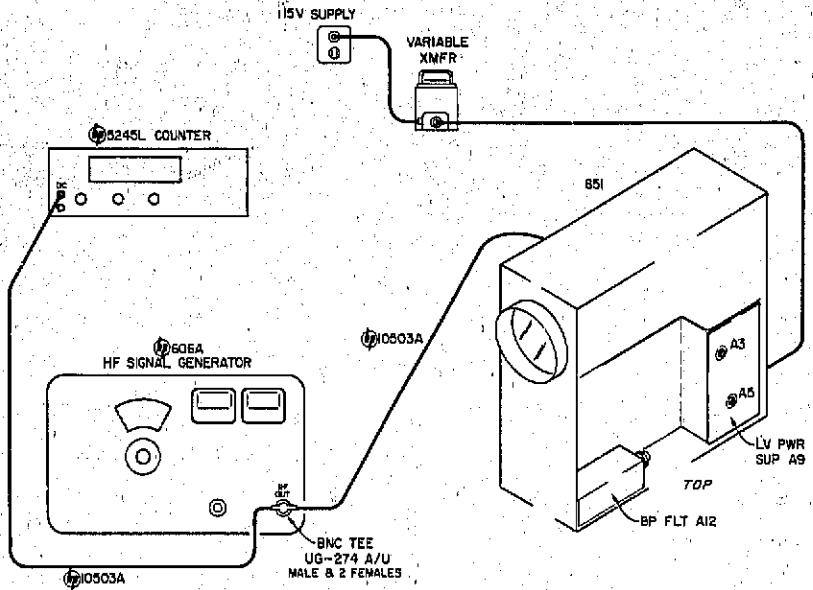

Figure 5-11. 1-Mc and 100-kc IF Bandwidth Alignment Setup
a. Setup. See Figures 5-11. Casting which houses RF Circuit Assembly A2 is on bottom of 851, and that which houses Bandpass Filter Assembly A12 is in top of 851, on right side near front panel. Access to both is required in this procedure; locations of assemblies and adjustments are called out in Figures 5-11 and 5-12. With top and bottom covers removed, rest 851 on its right side. Accessholes in cover plates of assembly castings are provided for adjustments called for in alignment procedure; holes are covered by removable plug-in buttons.
a. Use setup indicated in Figure 5-11. 100-Kc Bandpass Filter Assemblies A3 and A5 are located to ward rear of 851 on right side, beneath Low-Voltage Power Supply A9; access to adjustments A3L1 and A5L1 is through holes in the A6 Board; see Figure 7-13.